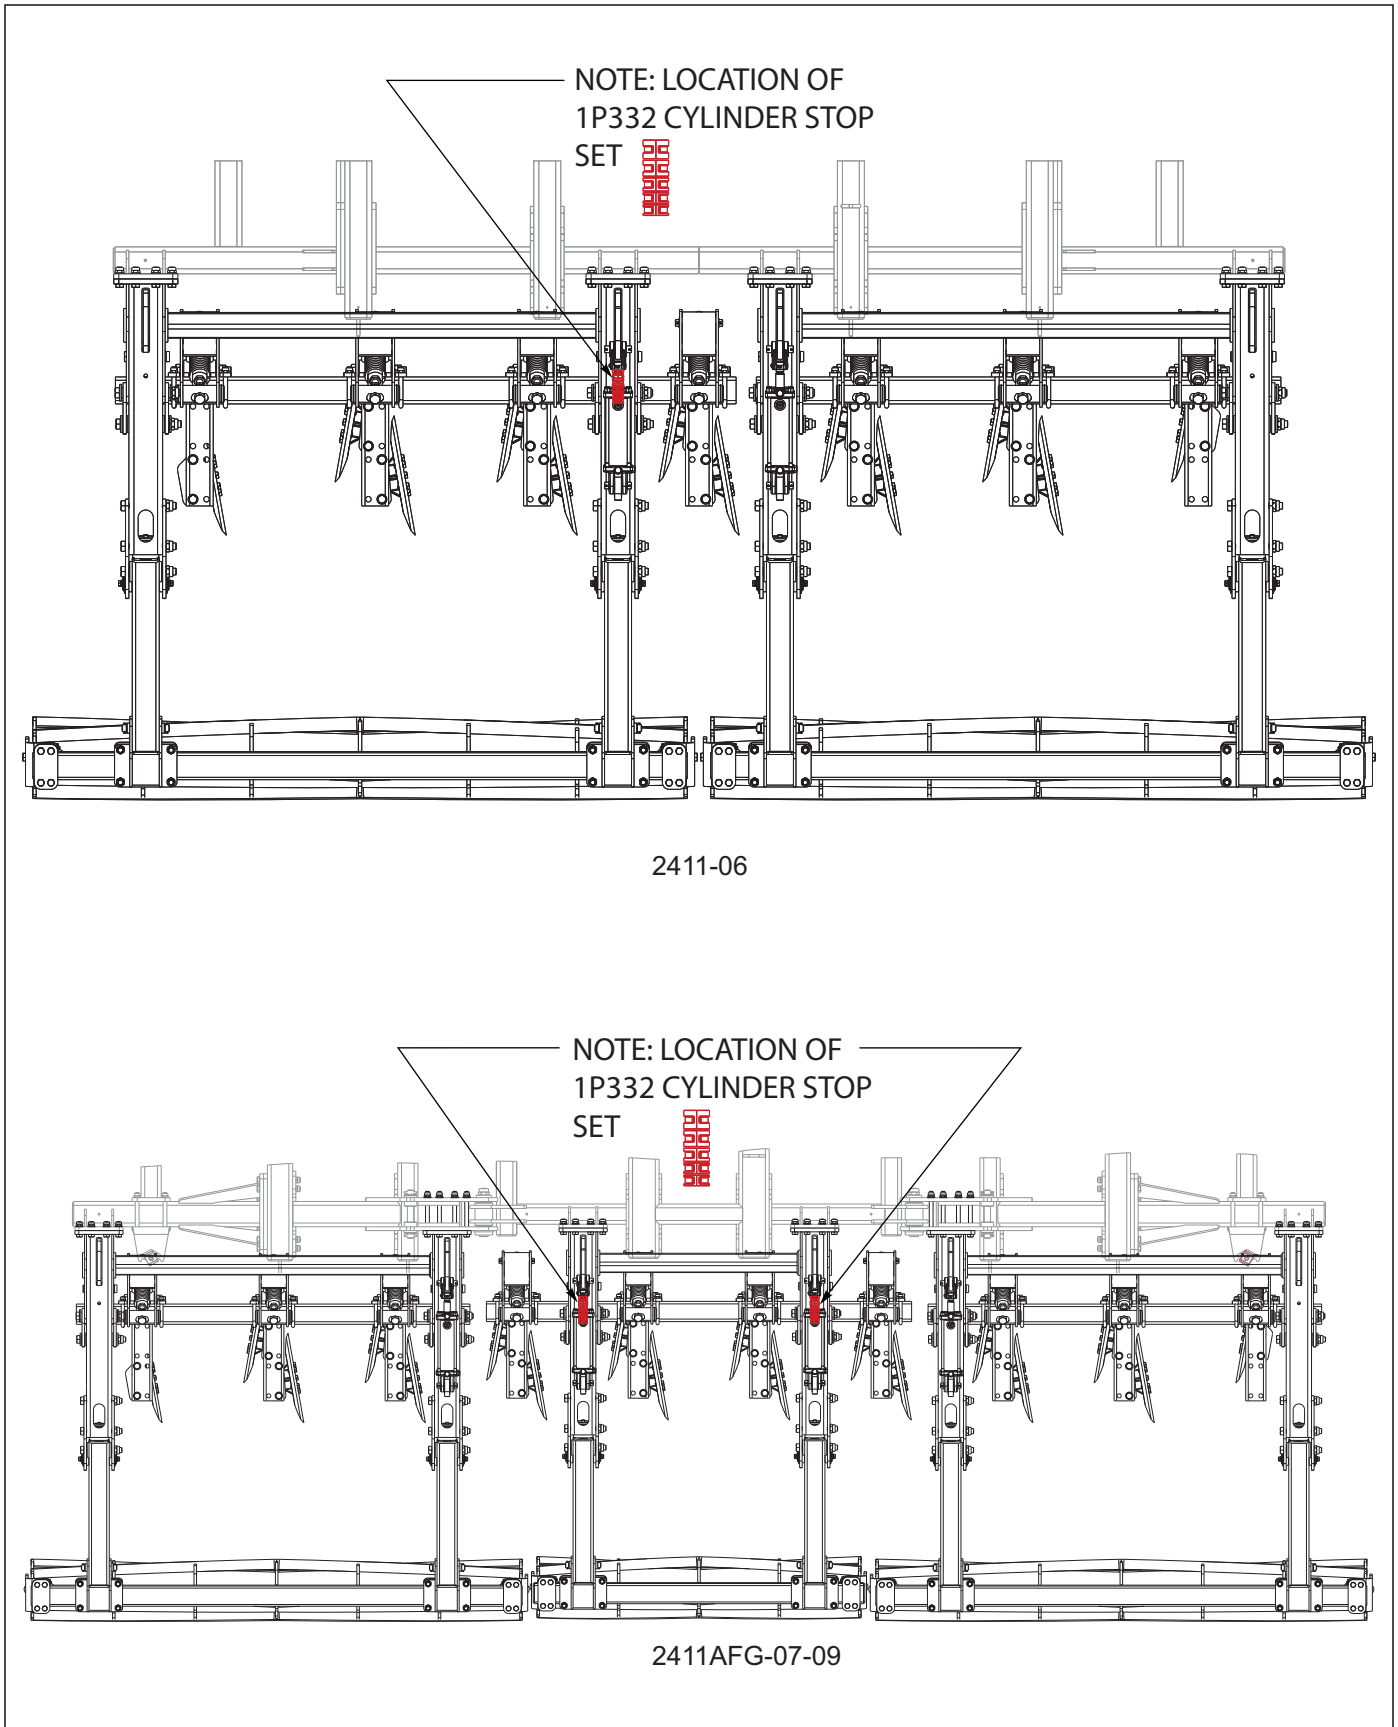

Figure 4-16: Disc Lev/Hyd Flat RL Cylinder Stop Location
5. Cylinder stops have been provided to maintain depth position. With the cylinder stops installed, the leveler will still be able to fully raise for transport. **See Figures 4-16** for the cylinders to place the cylinder stops on.